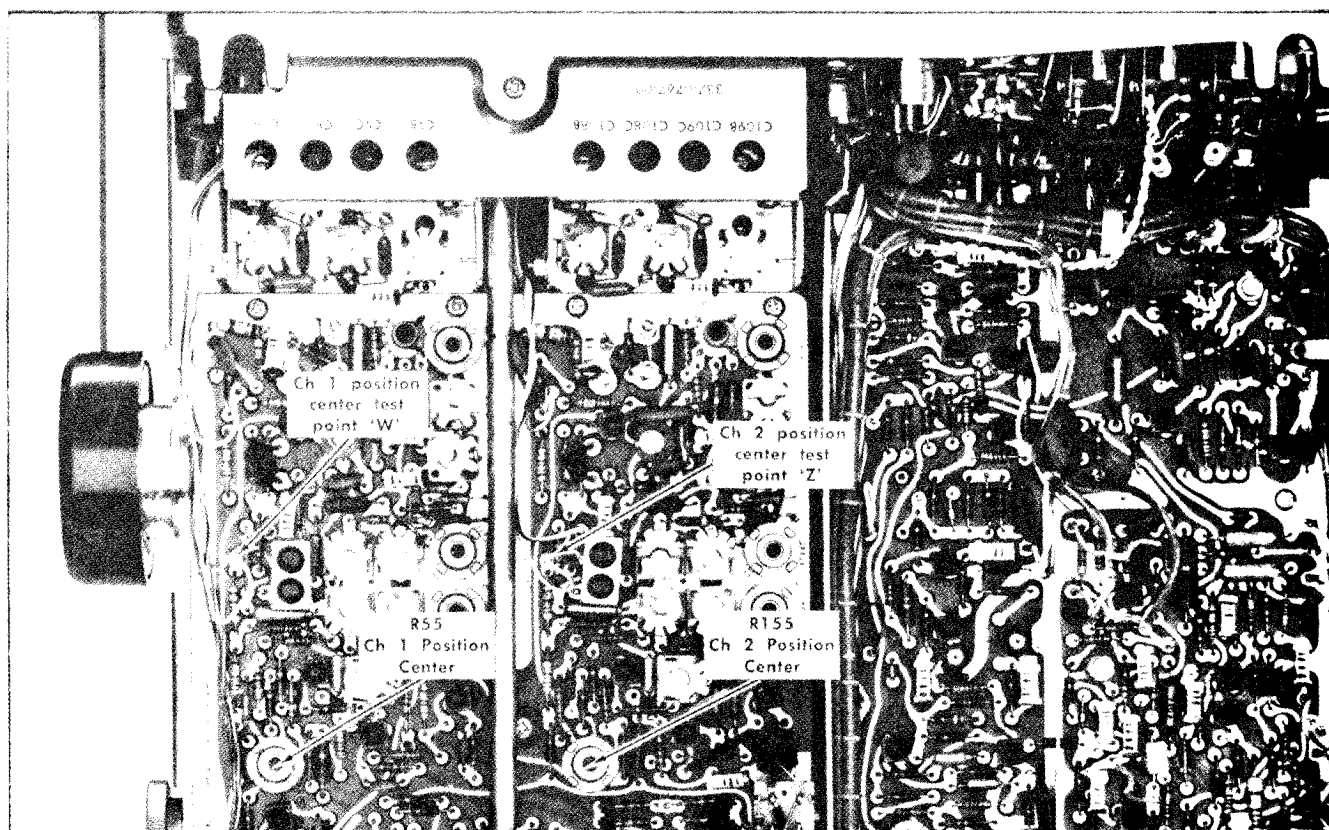

Fig. 6-15. Location of Channel 1 and 2 position center test points and adjustments (Vertical Preamp circuit board).
a. Connect the precision DC voltmeter between the Channel 2 position center test point (pin connector 'Z') on the Vertical Preamp board (see Fig. 6-15) and chassis ground.
d. ADJUST-CH 2 Position Center adjustment, R155 (see Fig. 6-15), to position the trace to the center line.
f. Connect the precision DC voltmeter between the Channel 1 position center test point (pin connector 'W') on the Vertical Preamp board (see Fig. 6-15) and chassis ground.
i. ADJUST-CH 1 Position Center adjustment, R55 (see Fig. 6-15), to position the trace to the center line.